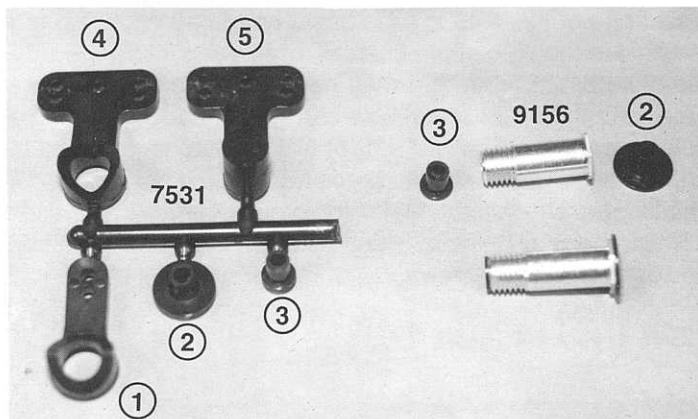

Fig. 24
□ **Fig. 24** Inside the same bag you will find the #7531 plastic servo saver parts tree and the #9156 aluminum servo saver tube. The names of the parts on the parts tree are: (1) left upper servo saver arm, (2) lower servo saver bushing, (3) upper servo saver bushing, (4) left lower servo saver arm, (5) right side bellcrank. Remove the two servo saver bushings and install them into the servo saver tube. The upper bushing goes into the threaded end of the tube and the lower bushing goes into the hex end of the tube.